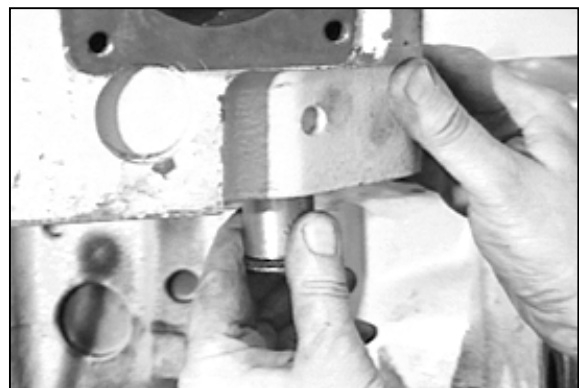

Fig.7 Ensure the water transfer tubes do not fall away.
14. Lift cylinder head, ensuring that water transfer tubes do not fall away (**Fig.7**).